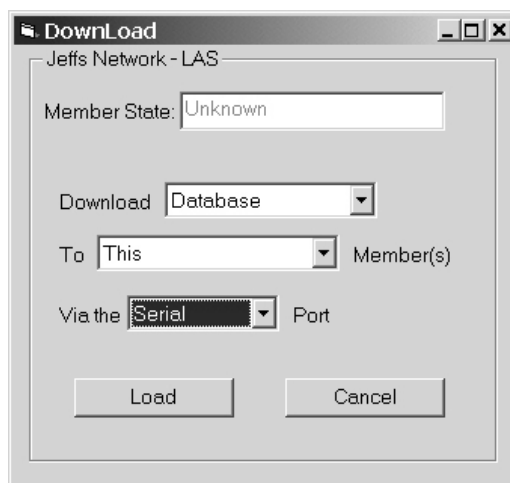

Figure 8.3 Downloading Network Data
- After all the members are added to the channel, save the configuration by pressing the Save Channel button. The configuration must also be downloaded to each router. This is accomplished by using the cable provided with the router and a COM port on the PC. Double-click a member name to display Figure 8.3.